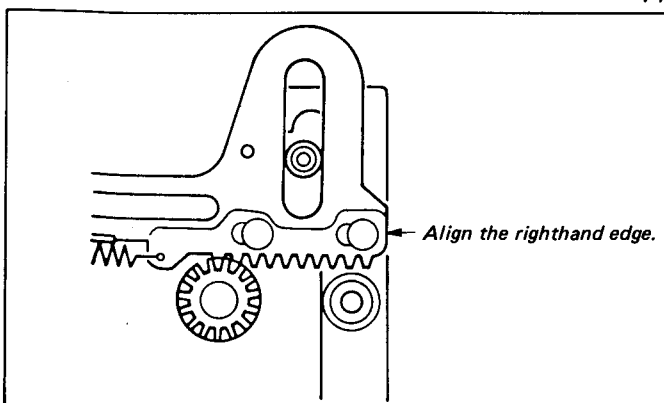

Fig. 1-30
- 1) Operate the mode selector and align the righthand edge of the L slider and that of the lock slider. (See Fig. 1-30.)